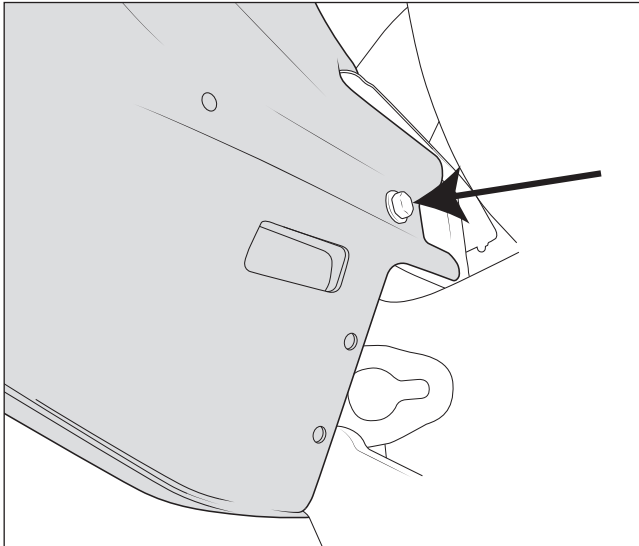
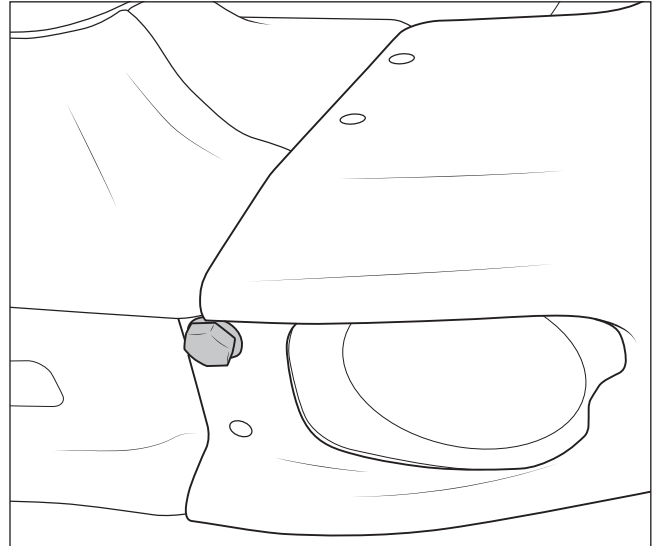
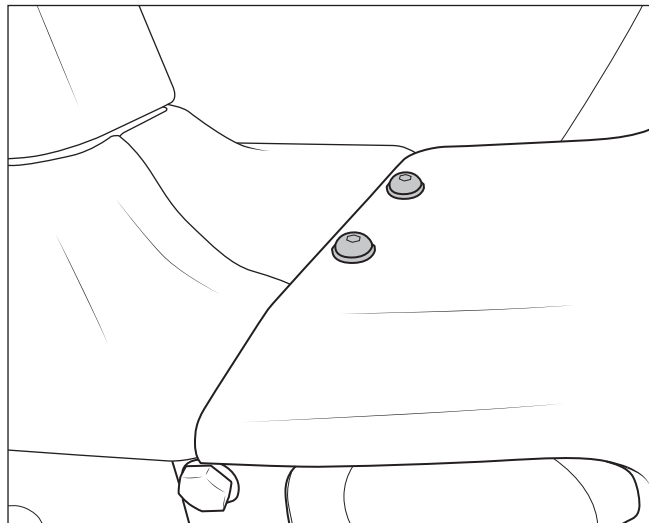

Figure 26
Figure 27
Figure 28
- Loosely bolt in place beginning with the weld nut locations; rear inner hole with M10x30mm bolt and washer from corner kit (fig. 26), then front upper hole with silver M12x35mm hex bolts and washers (fig. 27), then top two holes with black M8x25mm button head bolts and washers (fig. 28).